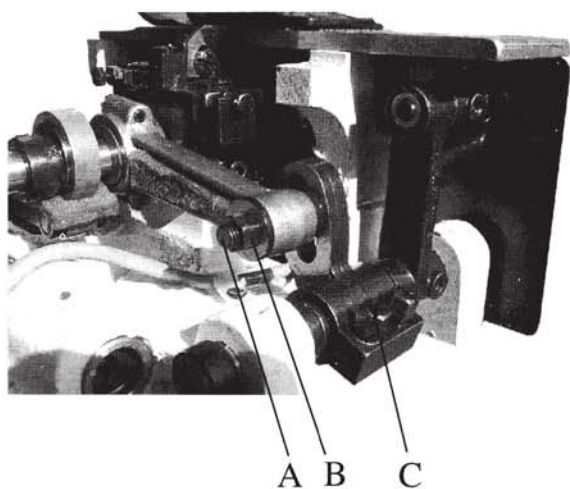

图 9 Fig.9
送料牙在针板牙槽内的两侧面间隙不对称时，拧松牙架座（图9，C）两只螺钉（D），左右移动牙架座至要求位置后再拧紧螺钉（D）。
If feed dog are not in the center in the throat plate slots, Loosen screws rear in the feed locker (C, Fig. 9),move the feed locker right or left as required. Then retighten screws(D).
针距长短的调节，是通过开针档（图9，C）扇形槽中的针距调节螺钉（A）的上下移动来实现的。下降螺钉（A）使针距加大，升高则缩短针距。调节时拧松螺母（B）、上下移动螺钉（A）至需要的针距后再紧固螺母（B）。（自动型式的机器需卸下罩壳时再调节）
The length of the stitch can be adjusted by raising or lowering the stud(A) in the segment slot of the feed locker (C, Fig. 9). Lowering the stud will shorten the stitch. After loosening nut(B), Stud(A) can be moved accordingly. When the desired stitch length is obtained, Retighten nut(B). (For automatic style machines the cloth plate should be removed to adjust)